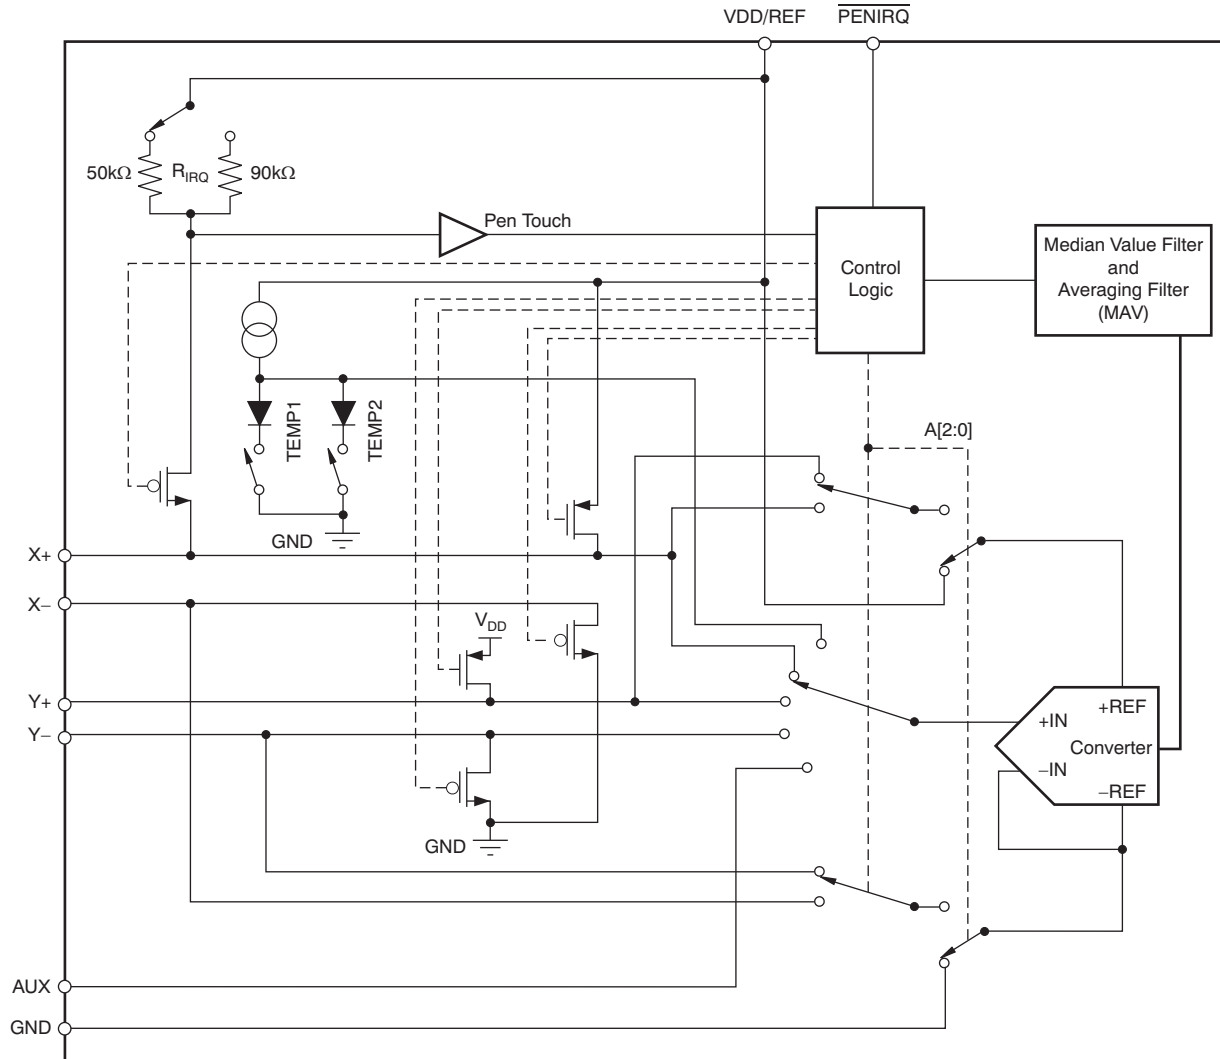

Figure 25. Analog Input Section (Simplified Diagram)
Figure 25 shows the analog inputs of the TSC2008-Q1. The analog inputs (X, Y, and Z touch panel coordinates, chip temperature and auxiliary inputs) are provided via a multiplexer to the Successive Approximation Register (SAR) analog-to-digital converter (ADC). The A/D architecture is based on capacitive redistribution architecture, which inherently includes a sample-and-hold function.
**Initiate Start**—The first bit is the start bit (S), and must always be high to initiate the start of a user-controllable control byte. When the start bit = '0', it is reserved for factory use.
**Addressing and Command Decoding**—The next three bits in the control byte following the start bit are three addressing bits A[2:0] used to select the active input channel(s) of the input multiplexer (see Table 4 and Figure 25), enable the touch screen drivers, select the reference inputs, or decode other commands.
(1) Bit 2 is the SER/DFR control bit for all commands except for the setup command.
(2) Use the setup command to configure the touch screen controller or access the software reset function.
**SER/DFR** —The SER/DFR bit controls the reference mode: either single-ended (high) or differential (low). The differential mode is also referred to as the ratiometric conversion mode and is preferred for X-Position, Y-Position, and Pressure-Touch measurements for optimum performance. The reference is derived from the voltage at the switch drivers, which is almost the same as the voltage to the touch screen. In this case, a reference voltage is not needed because the reference voltage to the A/D converter is the same as the voltage across the touch screen. In single-ended mode, the converter reference voltage is always the difference between the VREF and GND pins (see Table 4 and Figure 25 through Figure 27, for further information).